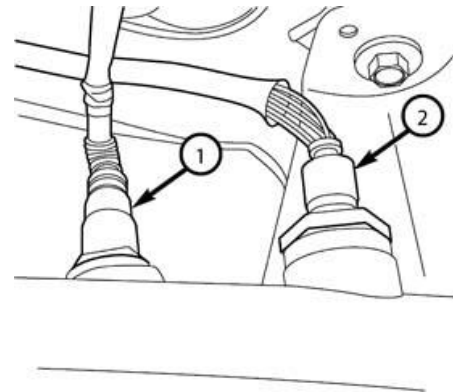

Figure 11 – PM Sensor on SCR
22. If necessary, using a six-sided crow foot to remove the PM sensor (1) from the Selective Catalyst Reduction (SCR) (Figure 11).
23. If the PM sensor fails to loosen use a torque wrench set to 160 N·m (118 ft. lbs.) and loosen the PM sensor (1) (Figure 11).
24. If the PM sensor (1) is still not loose after applying 160 N·m (118 ft. lbs.) then use a heat gun to heat the PM sensor boss for 1 minute at 450° C (842° F) (Figure 11).
25. If necessary, using a six-sided crow foot to remove the NOx sensor 1/2 (2) with module (Figure 11).
26. If the NOx sensor (2) fails to loosen use a torque wrench set to 160 N·m (118 ft. lbs.) and loosen the NOx sensor (2) (Figure 11).
27. If the NOx sensor (2) is still not loose after applying 160 N·m (118 ft. lbs.) then use a heat gun to heat the NOx sensor boss for 1 minute at 450° C (842° F) (Figure 11).